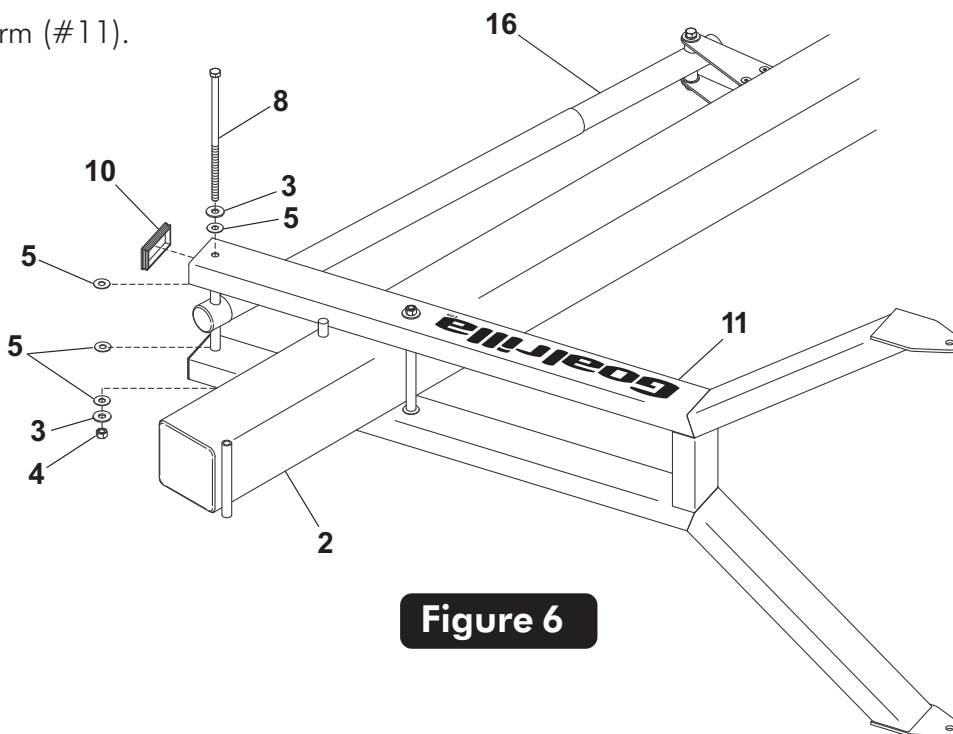

Figure 6
6. Secure Actuator (#16) to Lower Arm (#11) using one bolt (#8), two flat washers (#3), four plastic washers (#5) and one hex nut (#4). See **Figure 6**. Tighten both bolts (#8) securing Lower Arm (#11).